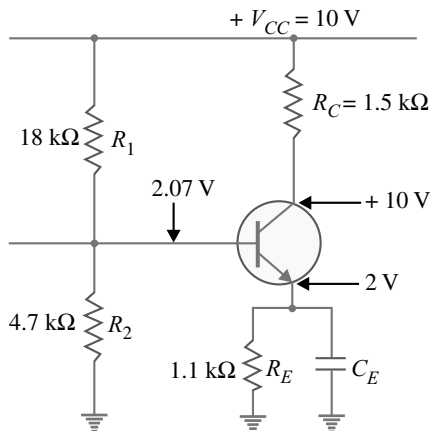

Fig. 7.56
**Example 7.46.** What fault is indicated in Fig. 7.56? Explain your answer with reasons.